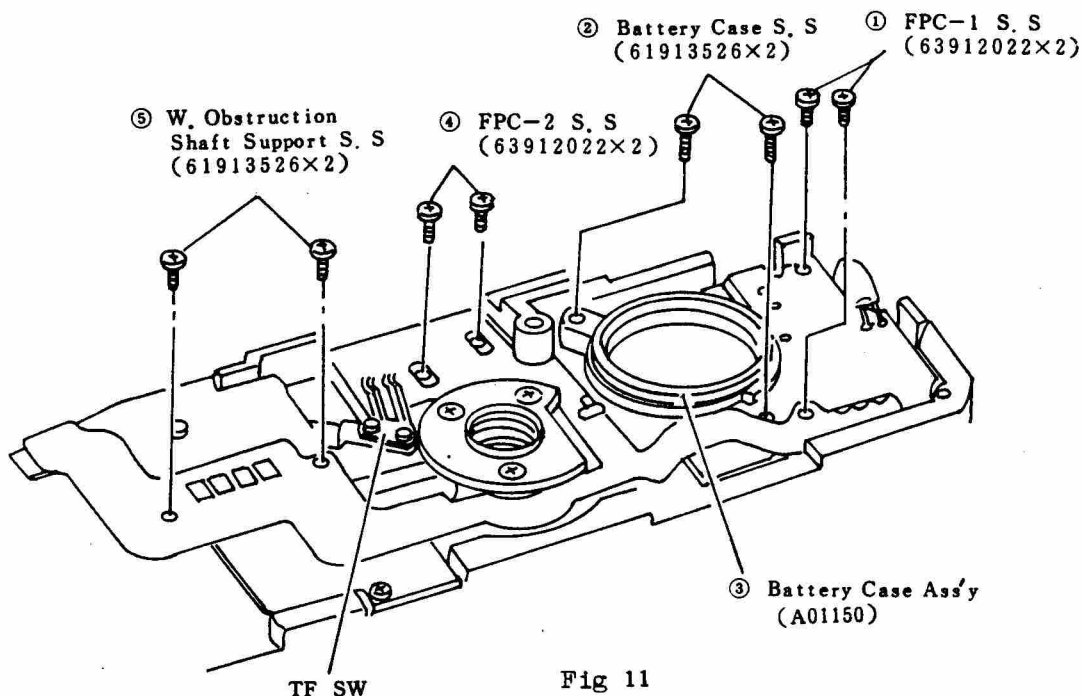

Fig 11
- d) Remove the respective parts ① ~ ⑤ shown in (Fig 11) in numerical order.